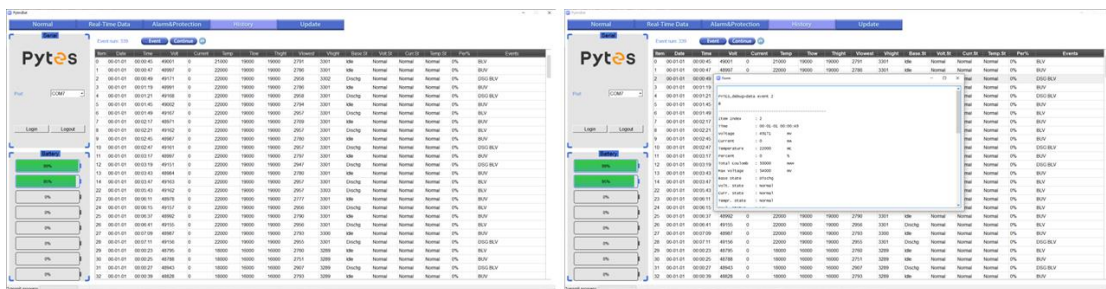

Figure 8
## 9. History (Figure 8)
- As shown in Figure 8, double-click any historical event to view the detailed information of it.